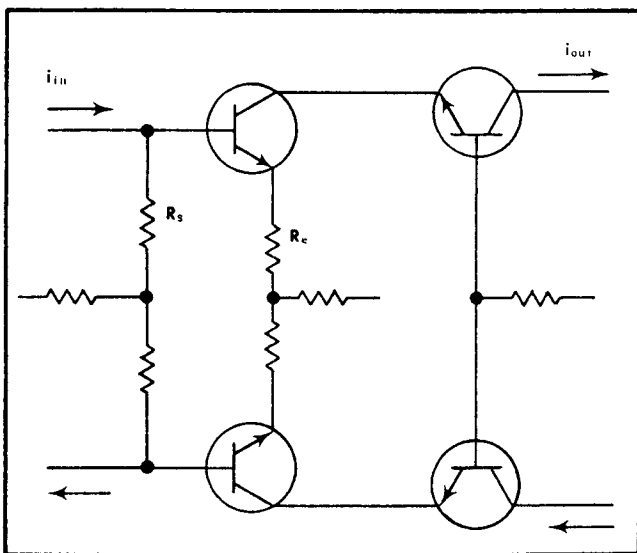

Fig. 3-8. Simplified circuit of Push-Pull Amplifier stages.
**General.** The 12 transistors following the Buffer Amplifier stage form three similar, four-transistor amplifier stages. Fig. 3-8 shows a simplified circuit of the basic push-pull amplifier configuration. The current gain ( $i_{in}/i_{out}$ ) is slightly less than the ratio of  $R_s$  to  $R_e$ . The configuration used for each of these push-pull amplifier stages provides a